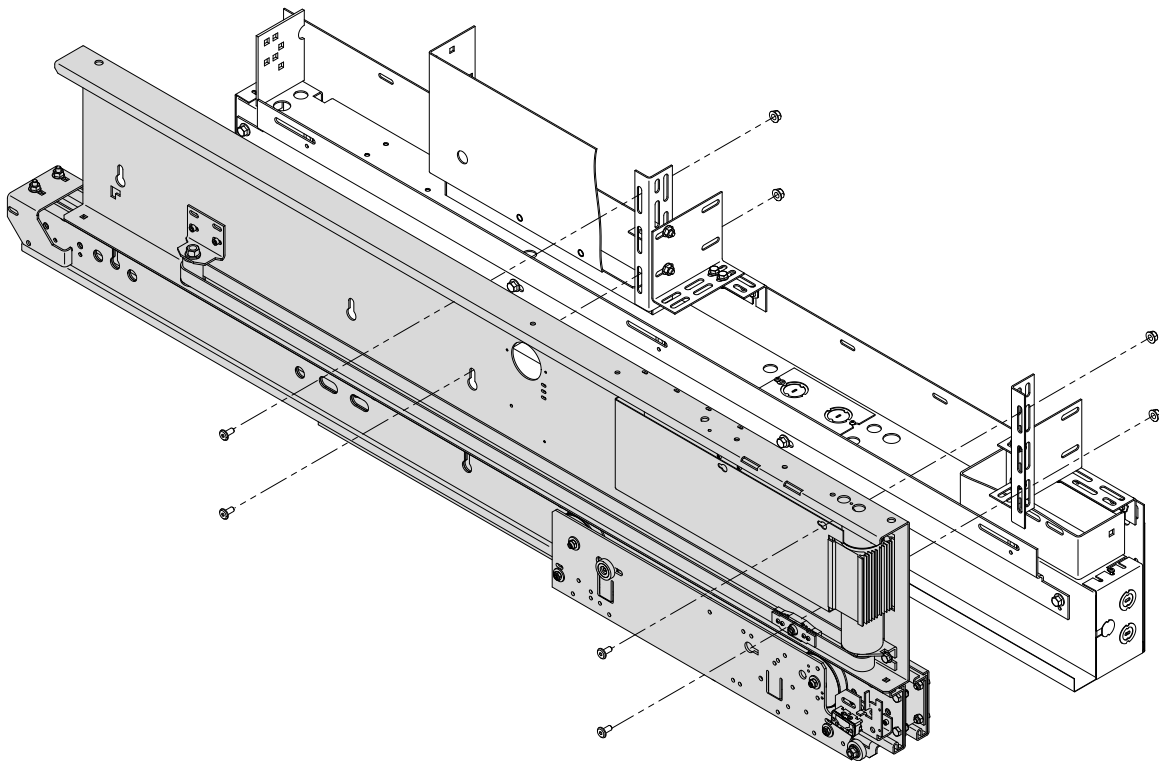
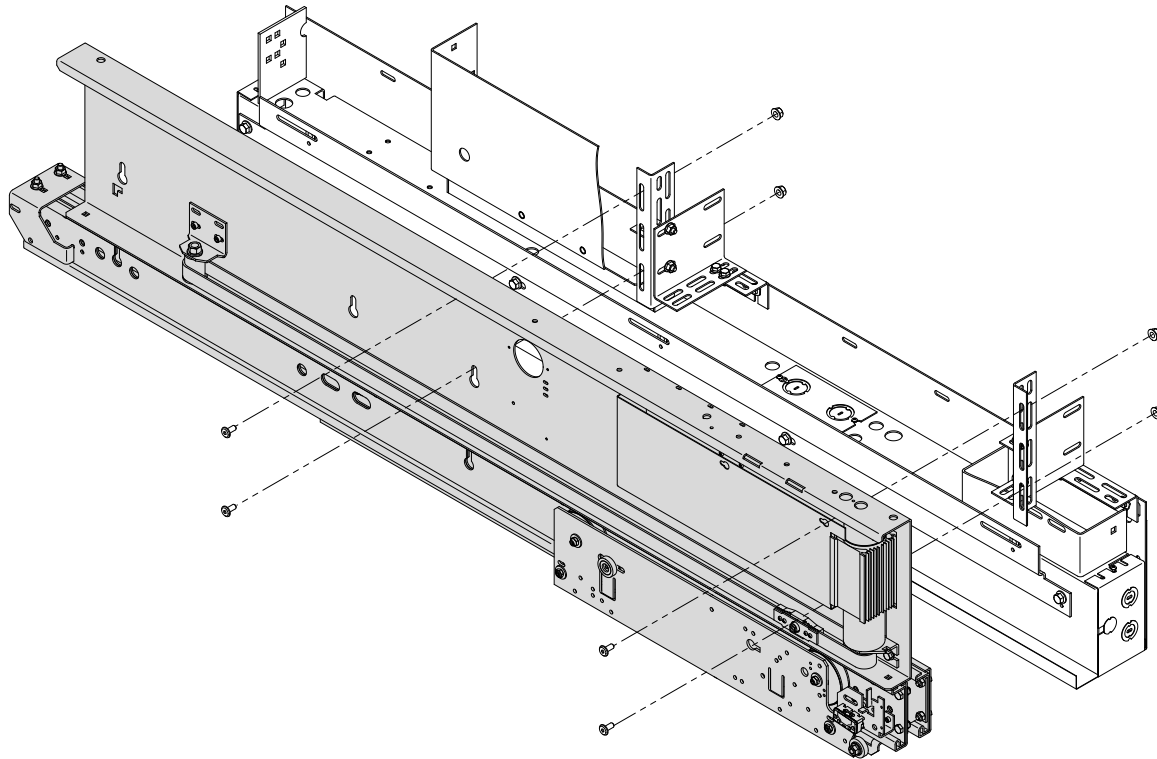

Figure 14 - Door Operator Machine Installation (1 of 2)
Figure 15 - Door Operator Machine Installation (2 of 2)
10. Install the door operator to the adapter angle. See Figure 14 below and Figure 15 on page 24.